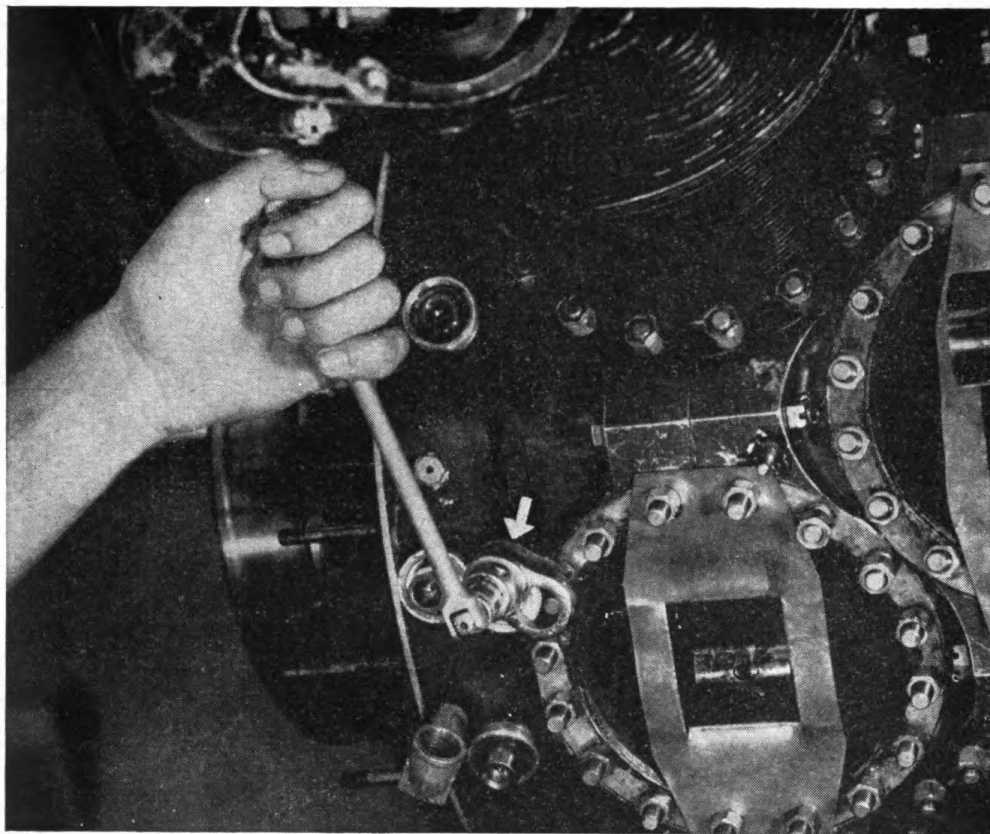

Figure 22. Stud-removing wrench in use.
d. STUD WRENCHES. (1) A stud-removing wrench has a recess for a socket handle, a hole through which the stud fits, and an off-center, hard-steel, milled-edge wheel. (See fig. 21.) It is used to remove stud bolts. The wrench is placed on the stud. The off-center wheel is held against the stud on the proper side and torque is applied by means of a socket handle. The off-center wheel binds against the stud and the stud is removed. (See fig. 22.)